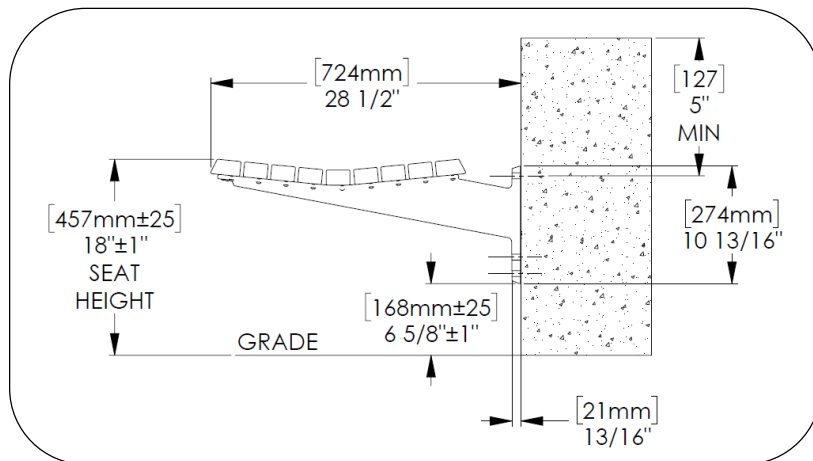
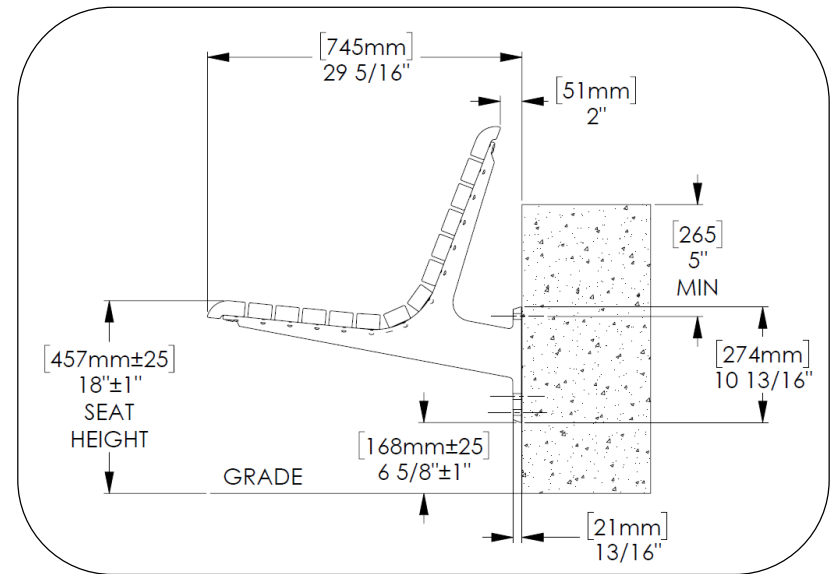

Fig. 1 – BACKLESS WALL MT BENCH
Fig. 2 – BACKED WALL MT BENCH
1. Locate bench in position using temporary blocking. Verify bench seat is level. See Fig. 1 or Fig. 2 for seat height.